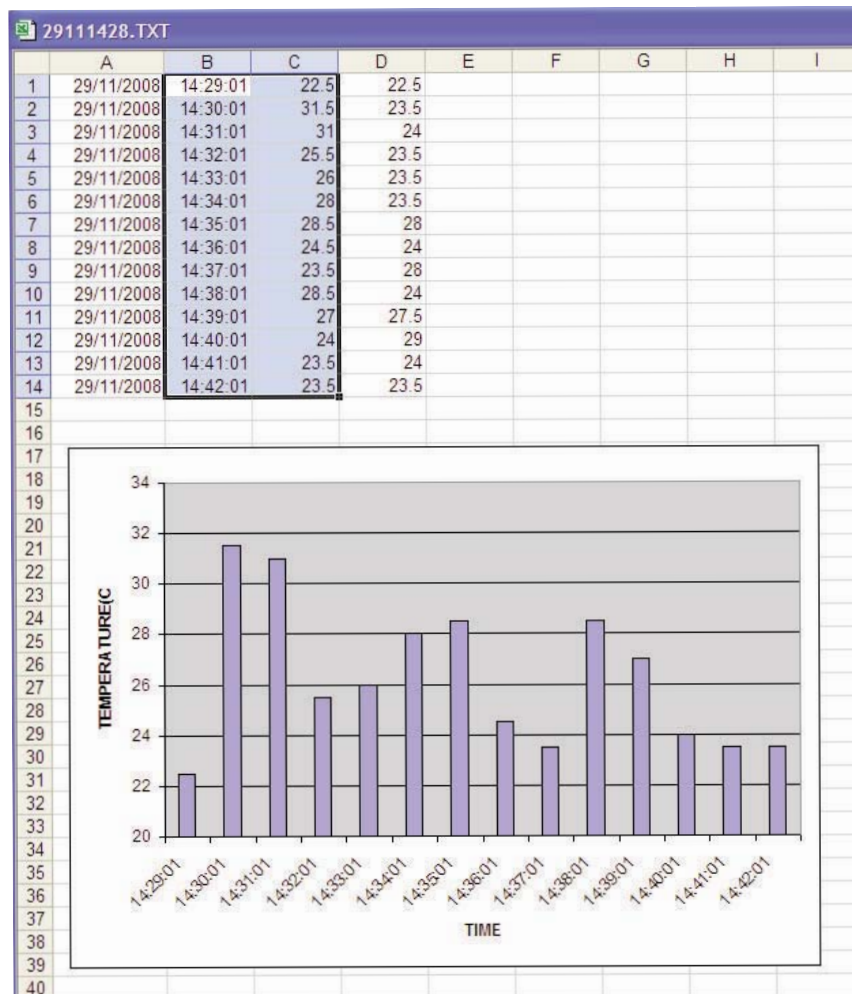

Figure 9: Offline analysis of the collected temperature data
- The graph of the change of temperature will be drawn as in **Figure 9** (this data was collected on the 29th of November at 14:28.